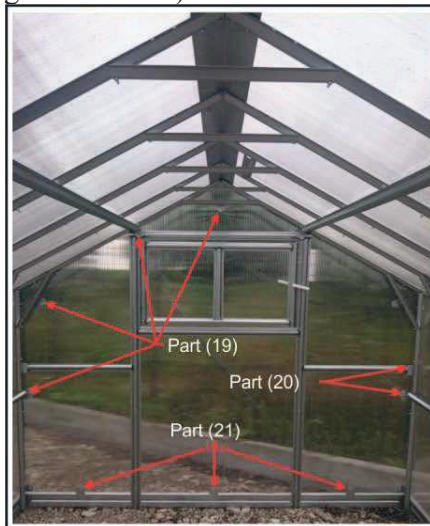

Fig. 12.1
12. Tighten the polycarbonate connection angles (19) and the bar connection angles (20) to the side – lower bars (No. 1), the upper bars (No. 2), and the side bar cross bars (No. 4; No. 5 or No. 6) with M5-12 bolts (27) and M5 nuts (30) (Fig. 12.1 – 12.2).